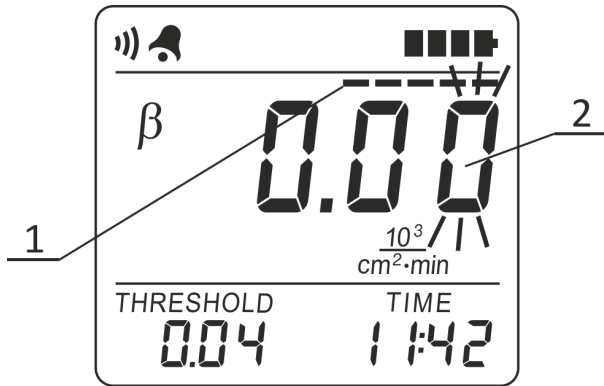

Figure 16 – LCD of the radiometer
If you keep holding the THRESHOLD button, then during the next two seconds the radiometer will proceed to the submode of new values programming of alarm threshold level and specified statistical error, and switching on/off audio signaling of registered gamma-quanta and beta-particles (Figure 16). A stripe (1) “moving” across the instantaneous value indicator and blinking of the low-order digit (2) of a new threshold level serve as an indication of this submode.